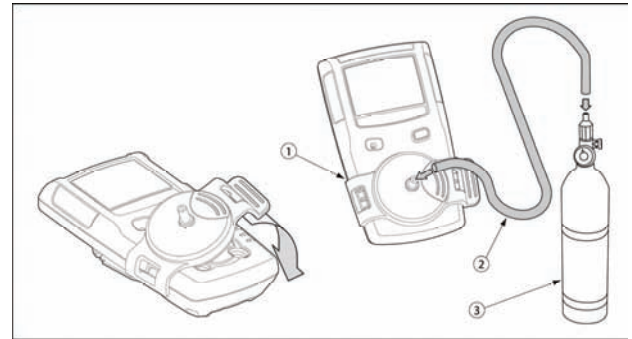

Figure 3. Applying Gas to the Sensors
The calibration cap and hose, which is shipped with the detector, simplifies sensor testing and calibration. Figure 3 and Table 10 show how to use it when applying gas to the sensors.
- 🔊 flashes and **AUTO-SPAN** remains displayed as you attach the calibration cap and apply gas to the sensors at a flow rate of 250 to 500 ml/min. (refer to Figure 3. Applying Gas to the Sensors).